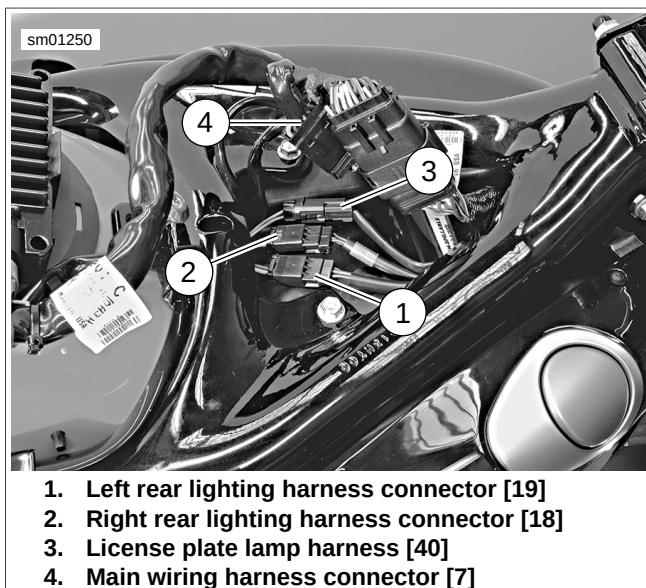
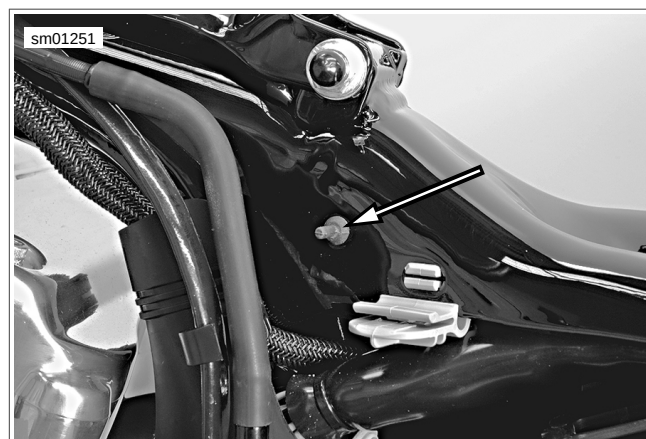

Figure 6-94. Rear Lighting Harness Connectors: XL 1200N
Figure 6-95. Converter Module Rubber Mounting Tab
4. See Figure 6-94. Unplug the following harness connectors:
- a. Left rear lighting harness [19] (1)
- b. Right rear lighting harness [18] (2)
- c. License plate lamp harness [40] (3)
- d. Main wiring harness [7] (4)
5. See Figure 6-95. Push in on converter module rubber mounting tab to release it from hole in frame.
2. Position converter module up inside frame, under "Y" section. See Figure 6-95. Pull rubber mounting tab through hole in frame to secure module.
3. See Figure 6-94. Plug in the following harness connectors: